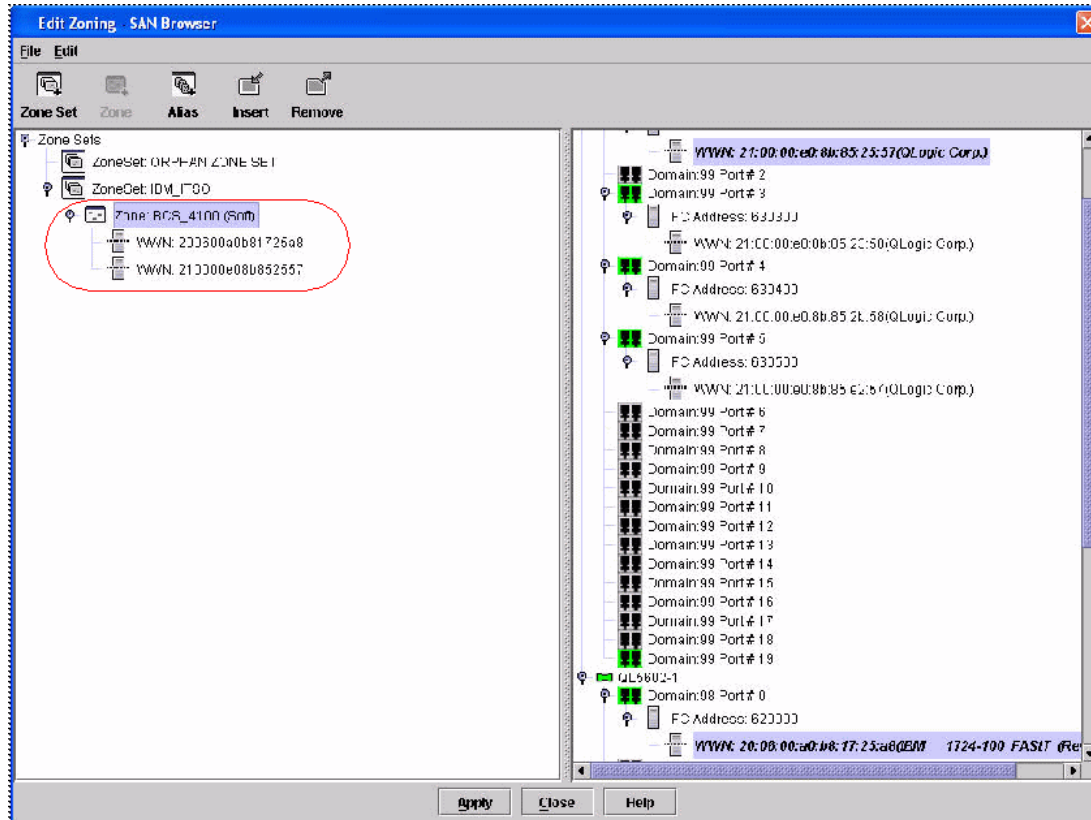

Figure 7-26 Edit Zoning - SAN Browser window
17. Once your zones have been created (Figure 7-26), click **Apply** to save your configuration.